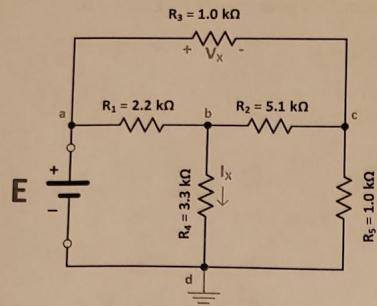

Figure 3.0a: Circuit for Nodal Analysis
- (i) **Nodal Analysis:** Select node "d" as a ground reference node as shown in Figure 3.0a. Using the nodal analysis technique, calculate the node voltages  $V_a$ ,  $V_b$  and  $V_c$ . Using these calculated node voltages, determine the value of the branch current,  $I_x$  and the branch voltage,  $V_x$ . Record all your results in Table 3.0.